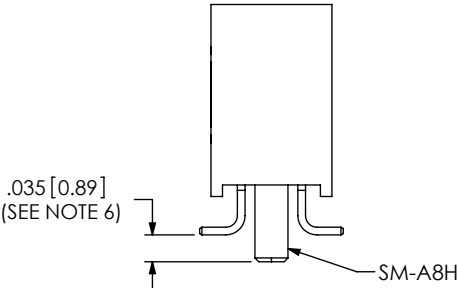

FIG 3
- A: STAKED & MOLDED IN ALIGNMENT PIN (5 POS MIN) (USE SM-A8H, SEE FIG 3, SHT 2)